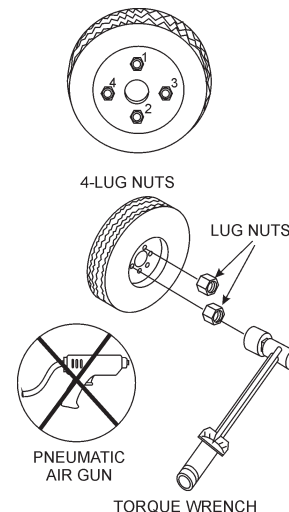

Figure 25. Lug Nut Torque Sequence
2. Torque all lug nuts in sequence. See Figure 25. **DO NOT** torque the wheel lug nuts all the way down. Tighten each lug nut in 3 separate passes as defined by Table 5.
3. After first road use, retorque all lug nuts in sequence (Figure 25). Check all wheel lug nuts periodically.